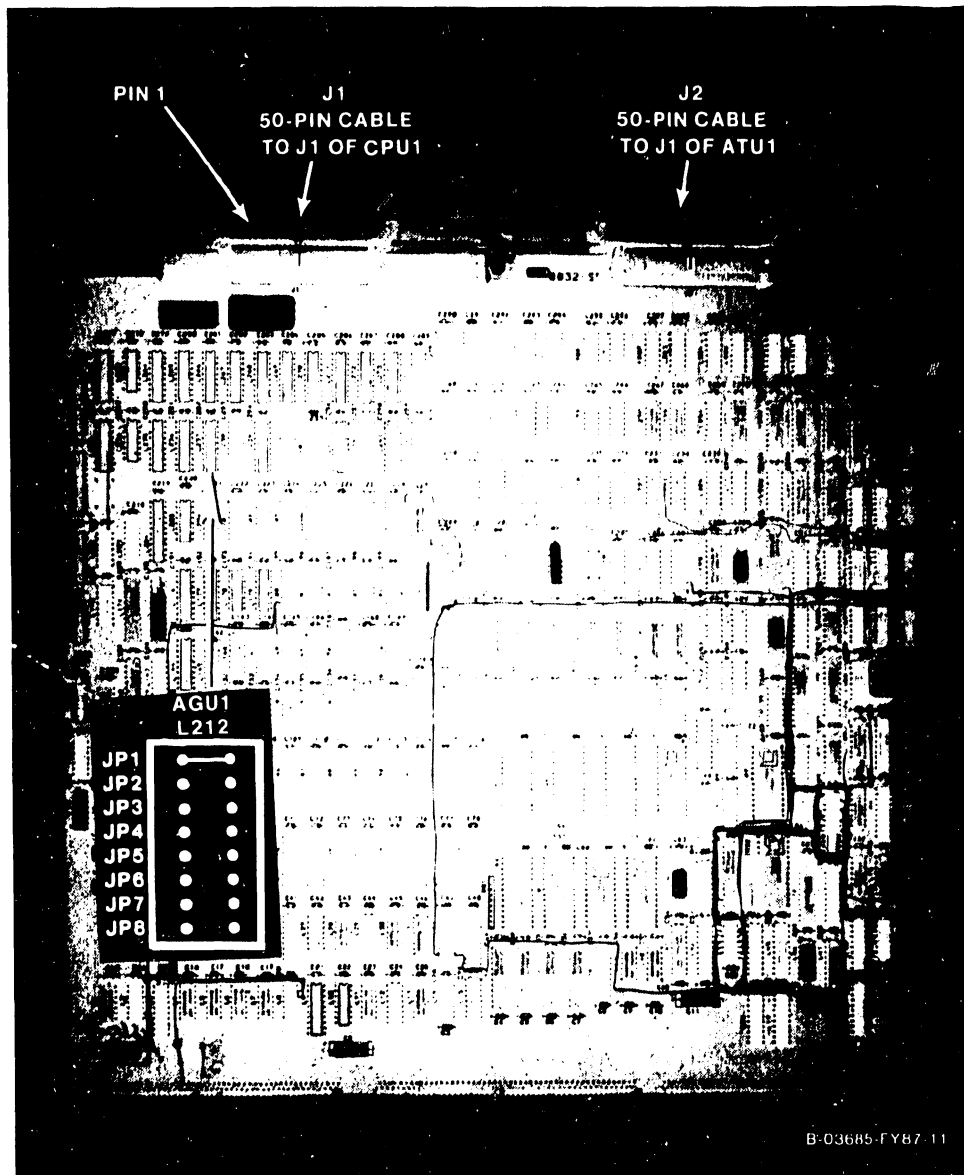

Figure 7-15. 210-9832 Address Generation Unit (AGU1)
1. Before removing the Address Generation Unit (AGU1), figure 7-15, from backplane slot #8, disconnect the 50-pin cables from J1 and J2.
3. After checking the oscillator jumpers at L212 (figure 7-15), install the new AGU1.